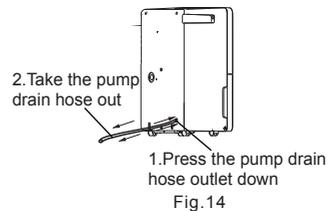

Fig. 14
- Press the pump drain hose outlet down and take the pump drain hose out from it (See Fig. 14).